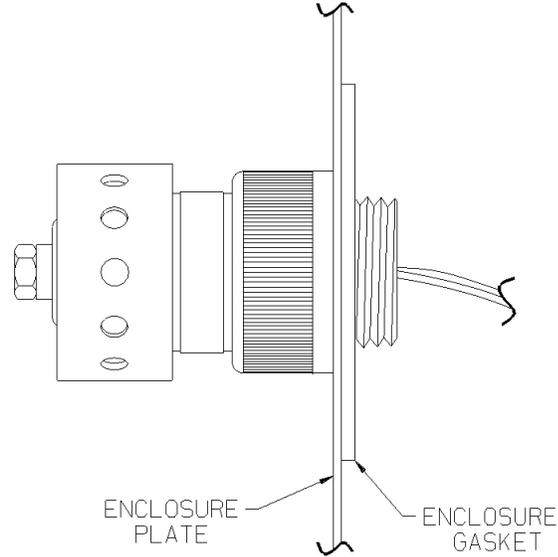

Fig. 49 Sensor
- (7) To avoid damage, completely remove the black SensorGard by unscrewing the black plastic ring.
- (8) Using a strap or pipe wrench, carefully unscrew the sensor body from the module.
- (9) Place the enclosure plate and gasket from the Duct Mount Kit on the sensor body threads (Fig. 49 "Sensor").